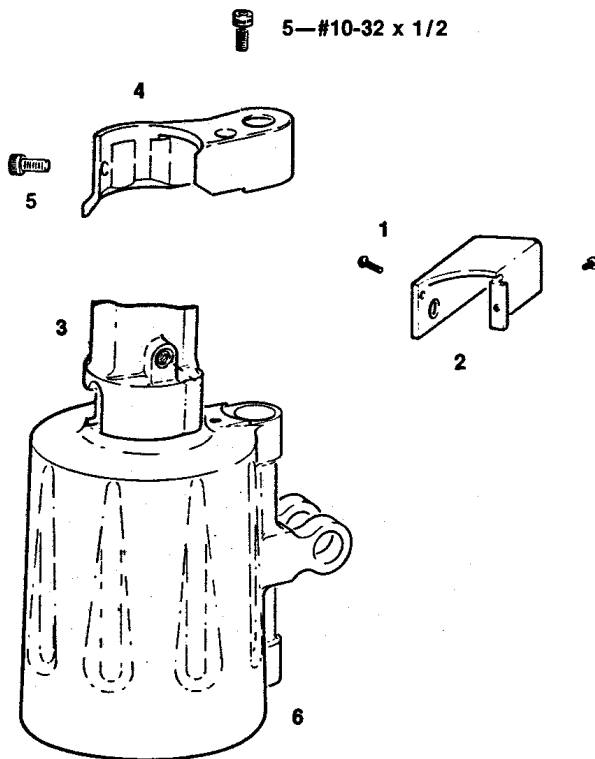

Figure 1.
1. See Figure 1. Unscrew both button head screws (1) with 1/16 hex key and remove throttle cover from handle.